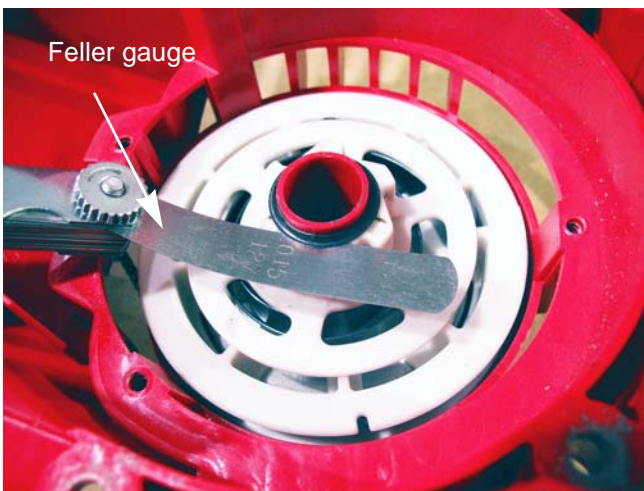

Figure 6.12
11. Check the clearance between the pulley and the retainer using a set of feeler gauges. See Figure 6.12.